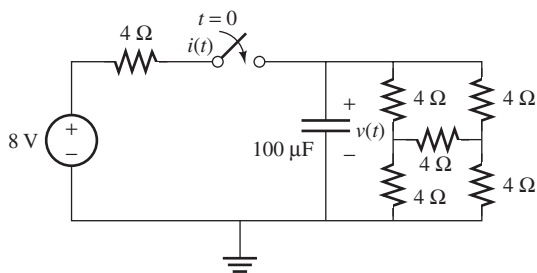

FIGURE P5.26 Circuit for Problem 5.26.
- 5.26 (B) Consider the circuit shown in Figure P5.26. The switch closes at $t = 0$; find $v(0^+)$, $i(0^+)$, and $v(\infty)$.